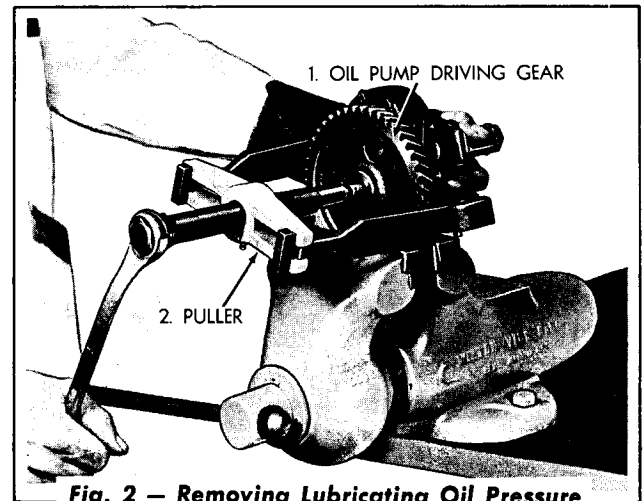

Fig. 2 — Removing Lubricating Oil Pressure Pump Driving Gear
C. Disassembly (Figs. 2 and 3)
1. Thoroughly wash the pump assembly. Remove the cotter pin and slotted nut from the rear end of the upper shaft. Place the oil pump assembly in a vise equipped with copper jaws, clamping the driving gear. Using tools as shown in Fig. 2, press the pump from the gear. Remove the "WOOD-RUFF" key from the pump shaft. File off any burrs on the shaft.